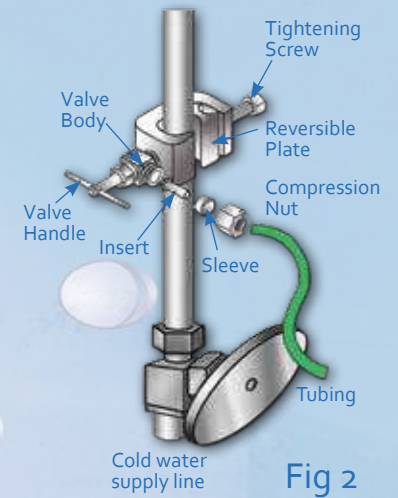

Fig 2
STEP 2 – Install the Saddle (Feedwater) Valve and Tubing (Fig 2)